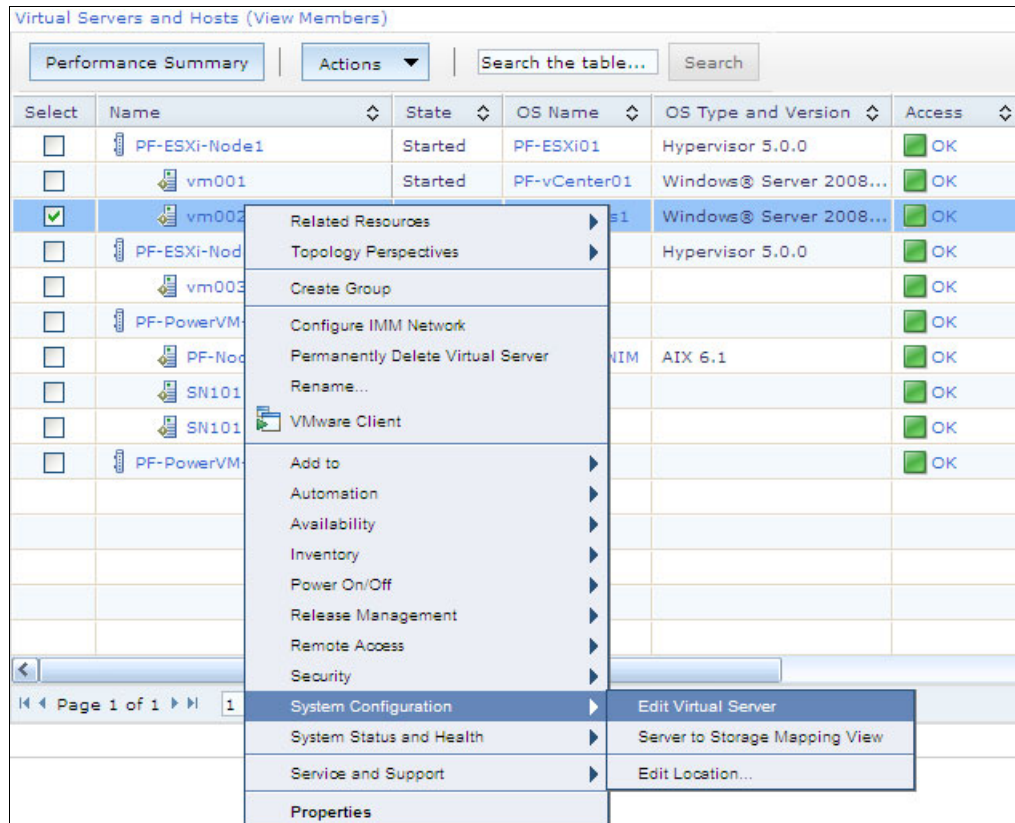

Figure 11-42 Edit Virtual Server menu item in the Virtual Servers and Hosts window
- Return to the Virtual Servers and Hosts window, right-click the powered-off **vm002**, and select **System Configuration** → **Edit Virtual Server**, as shown in Figure 11-42.